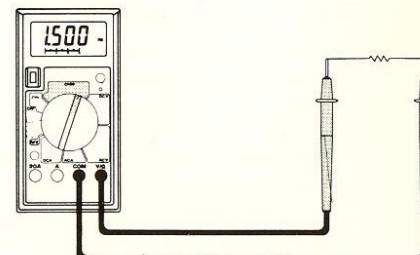

Fig. 5-6 Resistance Measurement
2. Set the function switch to the ohm range to be used and connect the test leads across the resistance under measurement. See Figure 5-6.